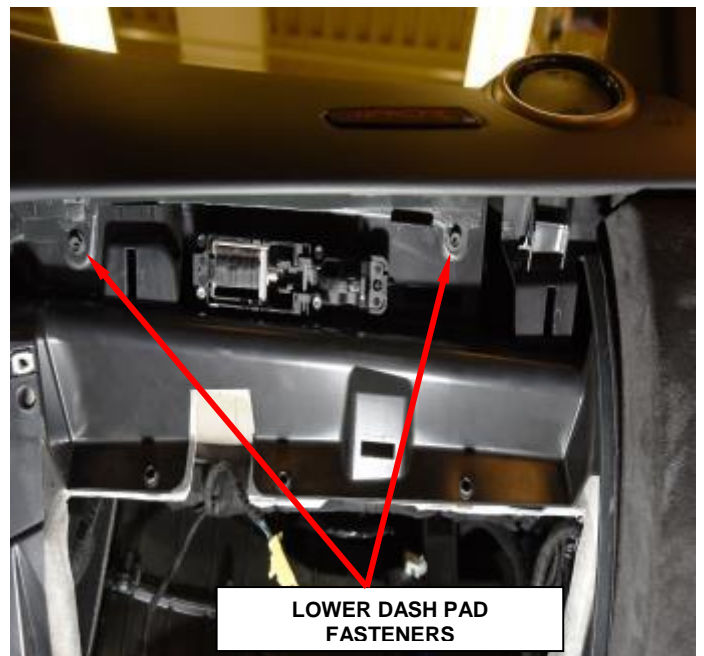

Figure 14 – Lower Dash Pad Fasteners
- r. From within the glove box opening, remove the two dash pad fastener (Figure 14).
- f. Install the two lower instrument panel pad screws and tighten securely (Figure 14).